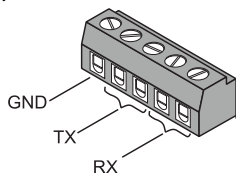

Figure 6. Connecting the Line to the Terminal Block
- Connect the 4-wire STP line to the terminal block screw, transmit pair to XMT and receive pair to RCV, in full duplex mode, as shown in *Figure 6*.